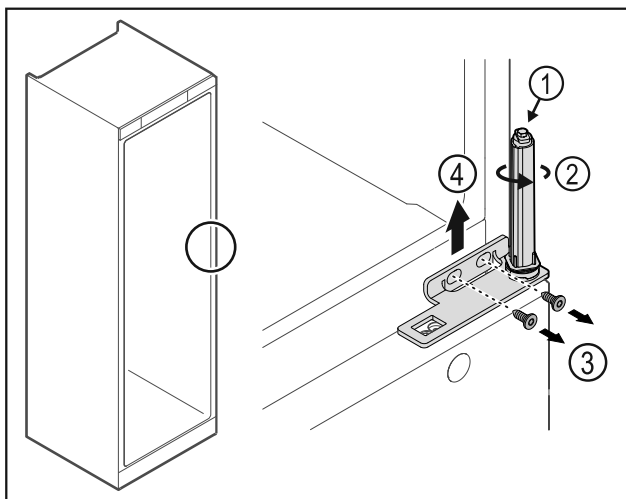

Fig. 33
- Do not disassemble the door closing system Fig. 33 (1).
- Turn the closing system Fig. 33 (2) until it clicks.
- Loosen the screws Fig. 33 (3) and lift off the hinge Fig. 33 (4).